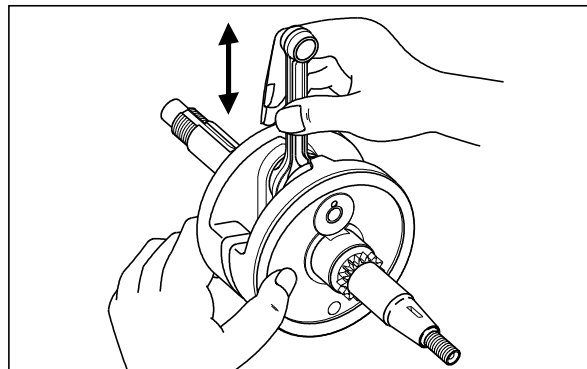

Fig. 3.182
- Hold the crankshaft assembly in hand, shake the connecting rod to find out the radial play. If any play is noticed, then replace the crankshaft assembly with a new one. (Fig. 3.182)